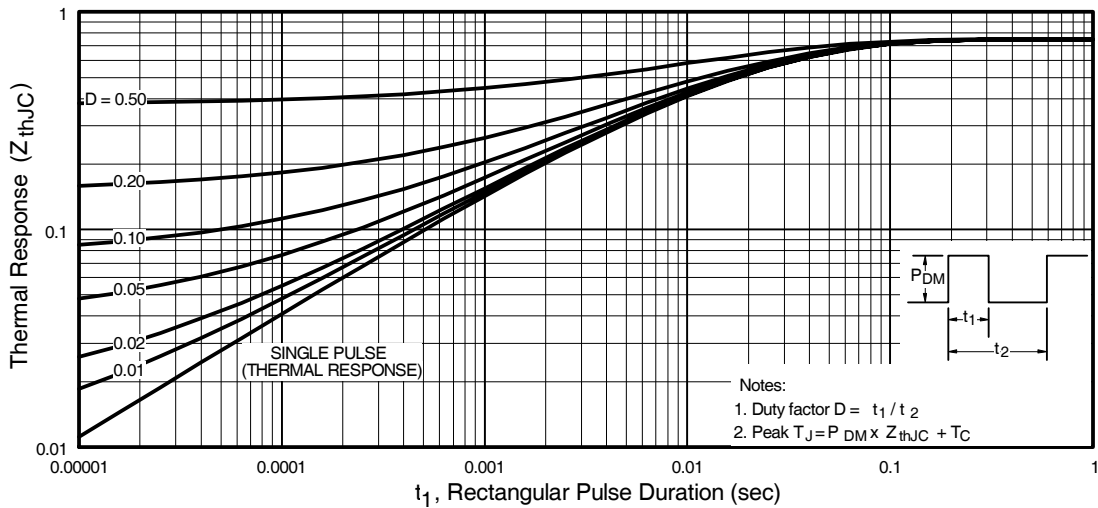

Fig 11. Maximum Effective Transient Thermal Impedance, Junction-to-Case
- ① Repetitive rating; pulse width limited by max. junction temperature. (See fig. 11).
- ② Starting $T_J = 25^\circ\text{C}$, $L = 0.08\text{mH}$
$Z_{thJC}(D, t_{av})$ = Transient thermal resistance, see figure 11)